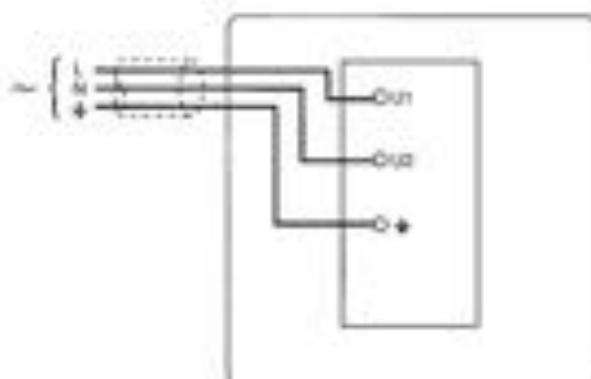

Figure 4 - Electrical supply connection, single-phase motor, 240 V 50 Hz
- Connect the cables to the terminals as shown in Figure 4.